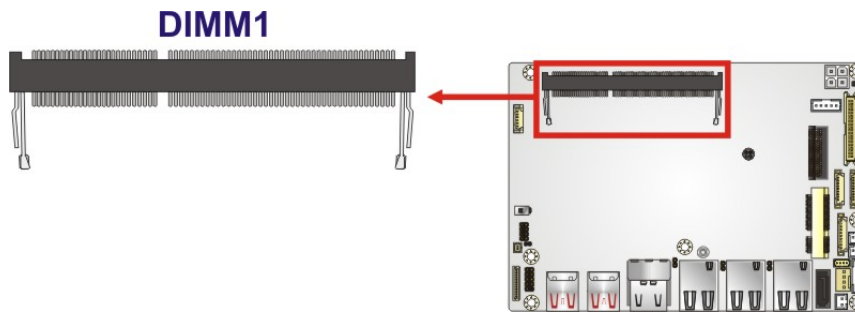

Figure 3-11: DDR4 SO-DIMM Socket Location
- CN Location:** See **Figure 3-11**